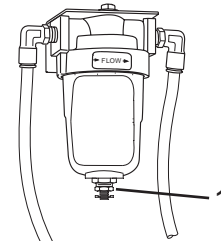

Figure 101
1. Locate the drain fitting (Figure 101, Item 1) on the bottom of the coalescing filter.